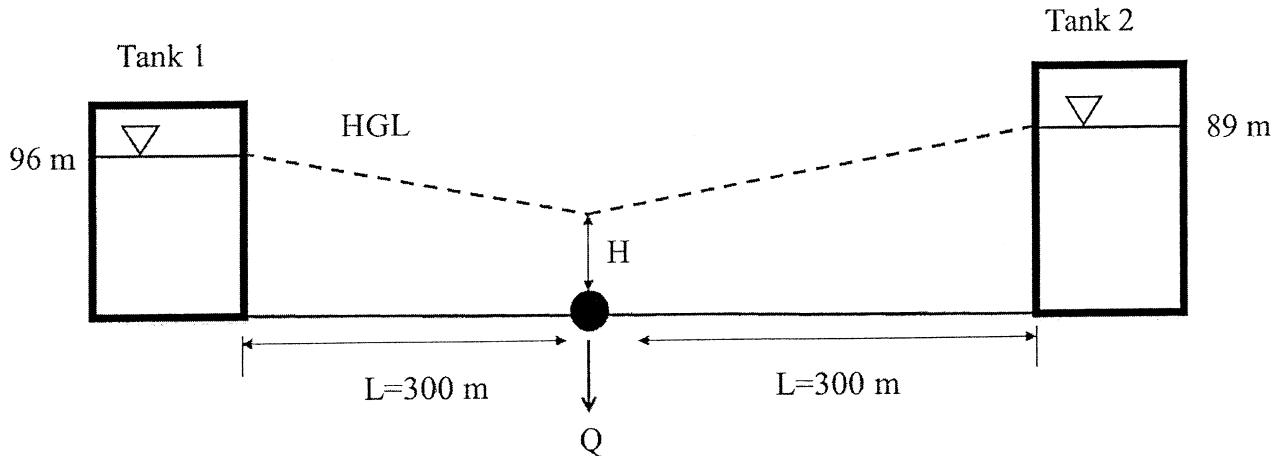

Figure 4. Water supply system.
4. Two elevated tanks supply water to a demand node with a valve at its outlet (Figure 4). The elevated tanks are cylindrical and have diameters of 5 m. The initial water level in Tank 1 is 96 m and the initial water level in Tank 2 is 89 m. The valve is half open and has a discharge coefficient of  $0.10 \text{ m}^{5/2}/\text{s}$ . The initial steady-state flow through the valve is 300 L/s. The valve discharges to the atmosphere. Both pipes have a Hazen-Williams 'C' factor of 110, an internal diameter of 250 mm, and a length of 300 m. Assuming quasi-steady conditions in the system, determine the pressure head at the demand node and the flow in the pipes in the first three time steps of the simulation. Use a time step of 10 seconds to carry out the quasi-steady state simulation.